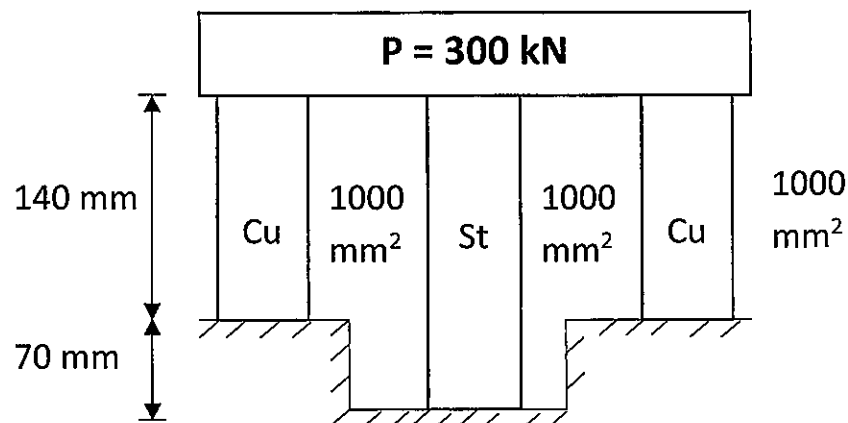

Figure 1(b) / Rajah 1(b)
- (c) Figure 1(c) below shows a composite bar made from aluminium and brass with a temperature of 40°C. Calculate the stress in each bar if the composite bar has been heated to 76°C. Given,